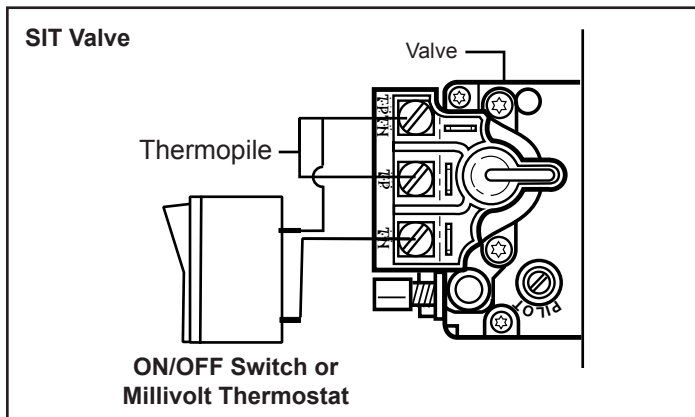

Figure 16 - Install wiring to switch before connecting to valve.
3. Attach wires to valve terminals. (Figure 16)
2. Connect the thermostat wires to the valve. (Figure 16)